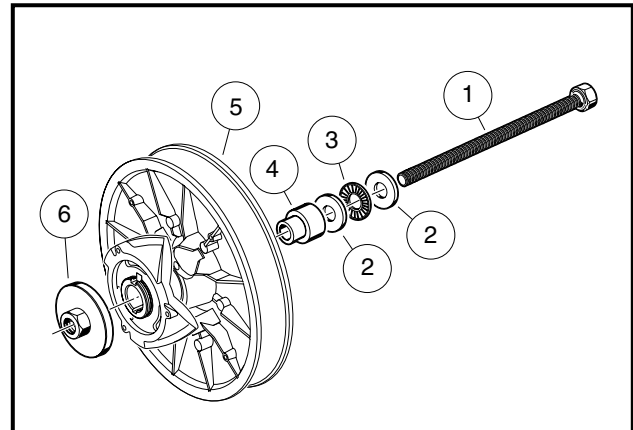

Figure 17-20 Cam Installation Tool
**NOTE:** This process is for field assembly requirements where hydraulic and pneumatic press equipment is not available. Use the Cam Installation Tool (CCI P/N 101808401) for this process (**Figure 17-20, Page 17-16**).
- 5.2.1. With the clutch loosely assembled, set the edge of the clutch body (5) on a clean, flat surface (**Figure 17-20, Page 17-16**).
- 5.2.3. Slide the bolt (1) through the clutch body (5) until the threaded bolt, washers, bearing, and hub guide are against the fixed face hub (**Figure 17-20, Page 17-16**).